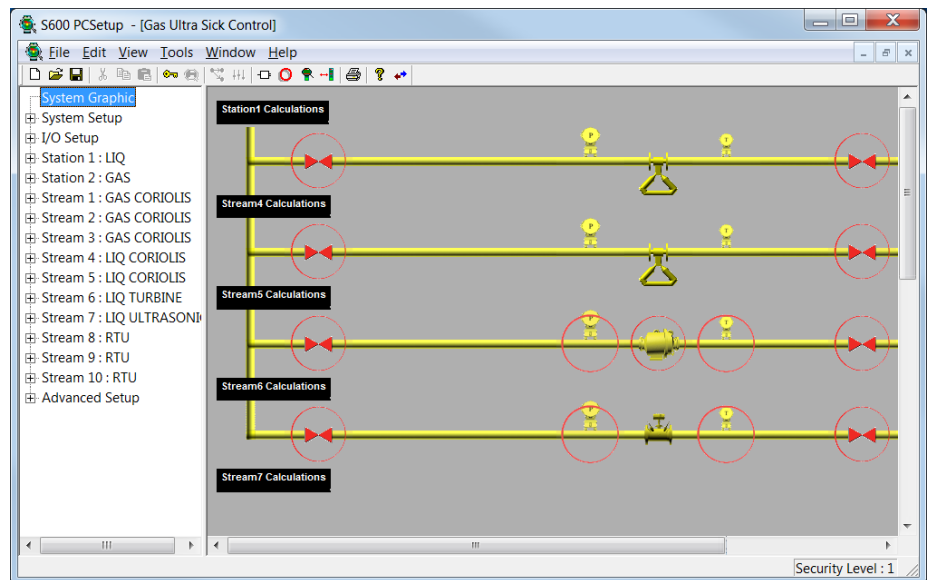

Figure 2-16. Example System Graphic
4. When the process completes, the S600 PCSetup screen redisplay, showing a graphic representation of your configuration. (*Figure 2-16* is an example graphic):